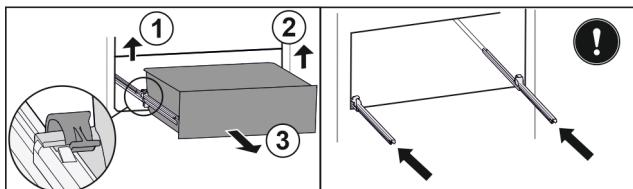

Fig. 101
- ▶ Lift left clamp and simultaneously pull drawer forwards on the left. Fig. 101 (1)
- ▶ Lift right clamp and simultaneously pull drawer forwards on the right. Fig. 101 (2)
- ▶ Remove drawer to the front. Fig. 101 (3)